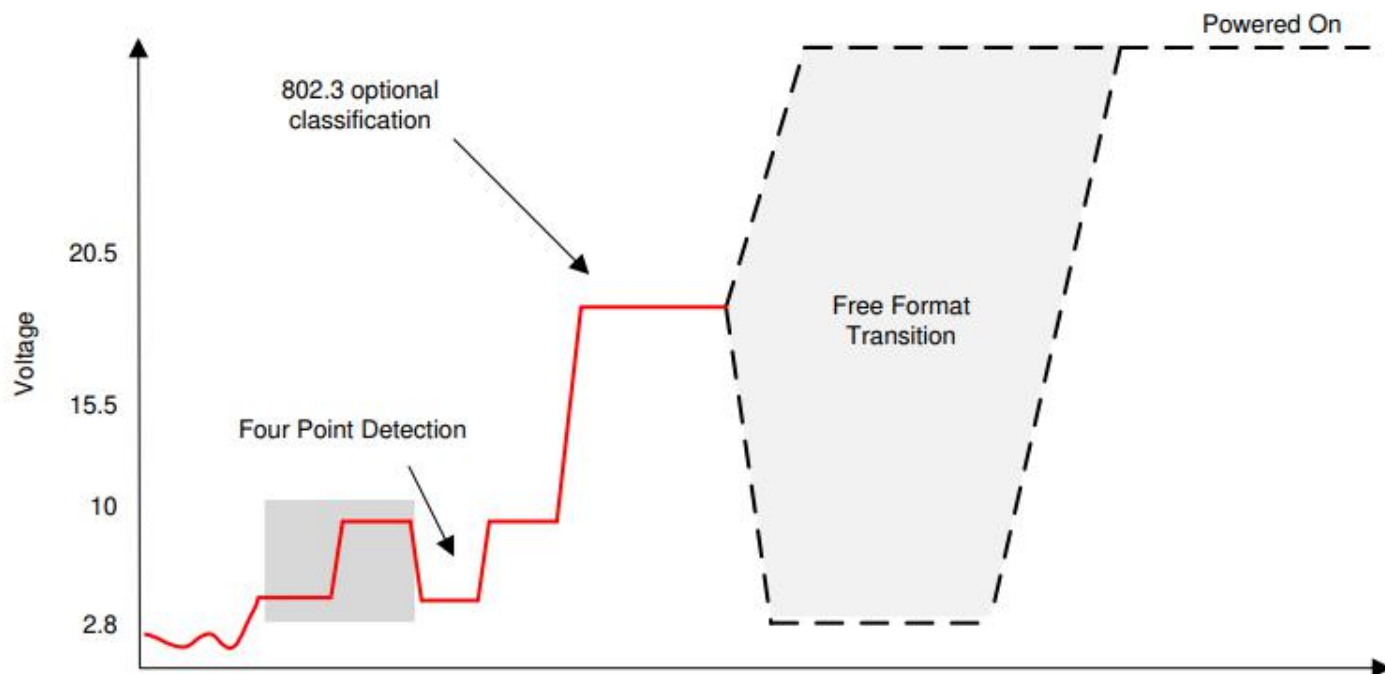
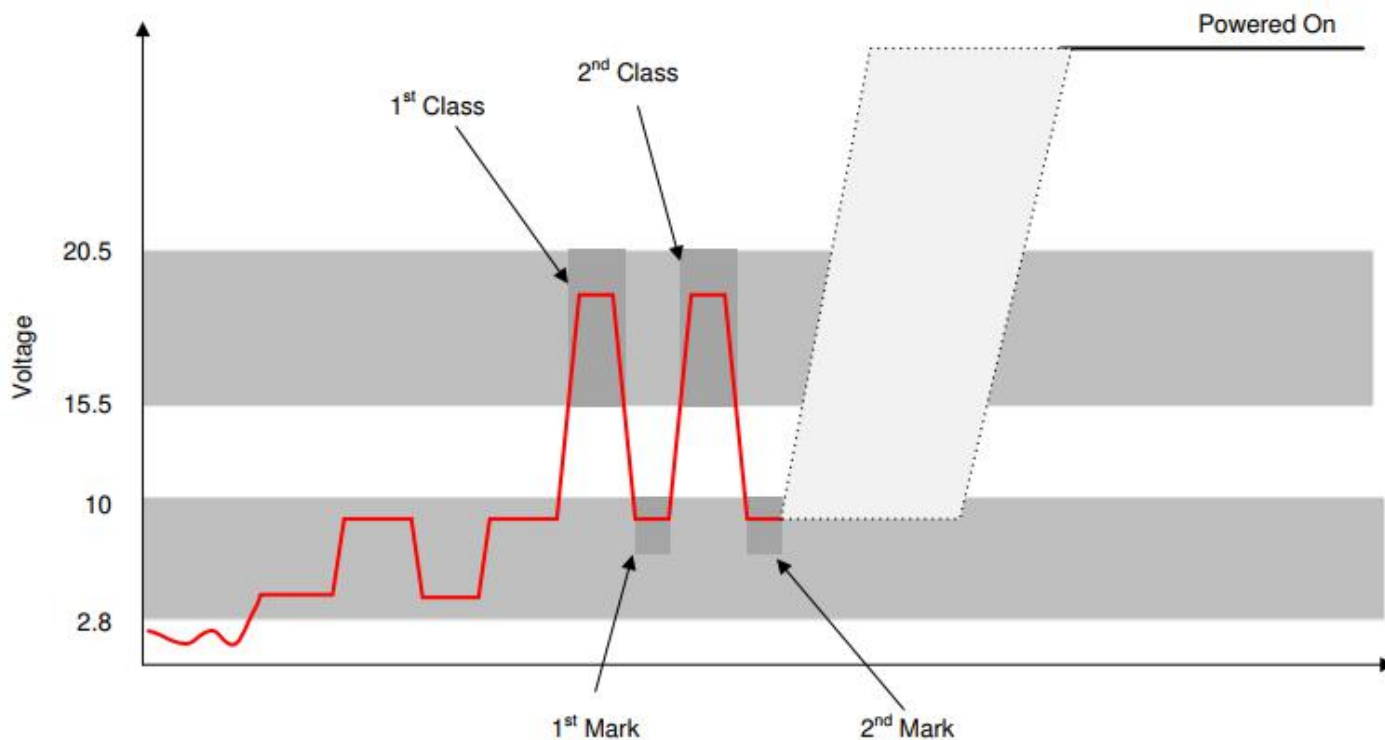

Figure 1. 802.3af with Classification
Figure 2. P802.3at with Classification
The WC-PSE12-52V will automatically perform the Signature and Classification, Figure 1 shows the timing sequence for a Type 1 Powered Device (PD) and Figure 2 shows the timing sequence for a Type 2 PD.